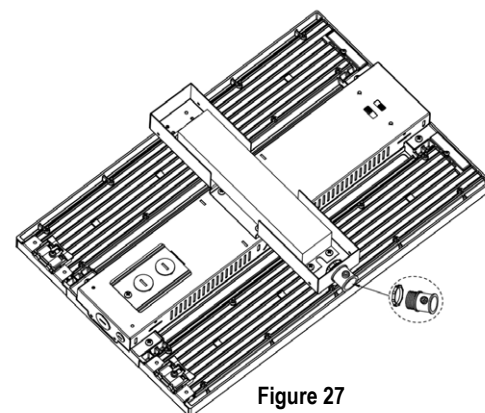

Figure 27
3. Pass the straight head through the 1/2 hole of the mounting kit and lock it with a nut (see Fig. 27)